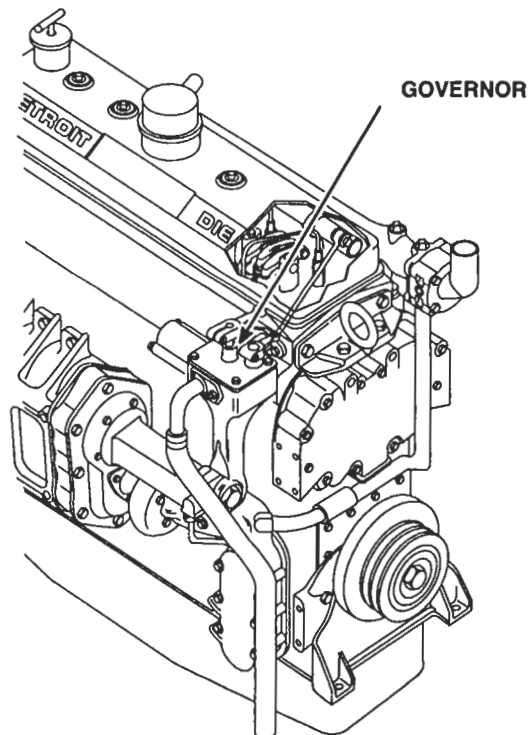

Figure 2. Typical Limiting Speed Governor Mounting
1. Disconnect the linkage attached to the governor control levers (Figure 2.)